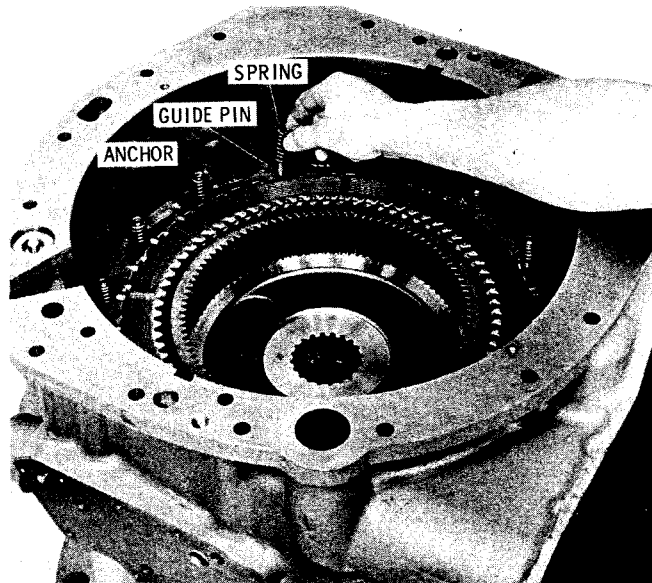

Fig. 5-78. Removing high-splitter clutch piston return springs
(2) Remove 14 high-splitter clutch piston return springs (fig. 5-78) from the high-splitter clutch anchor.